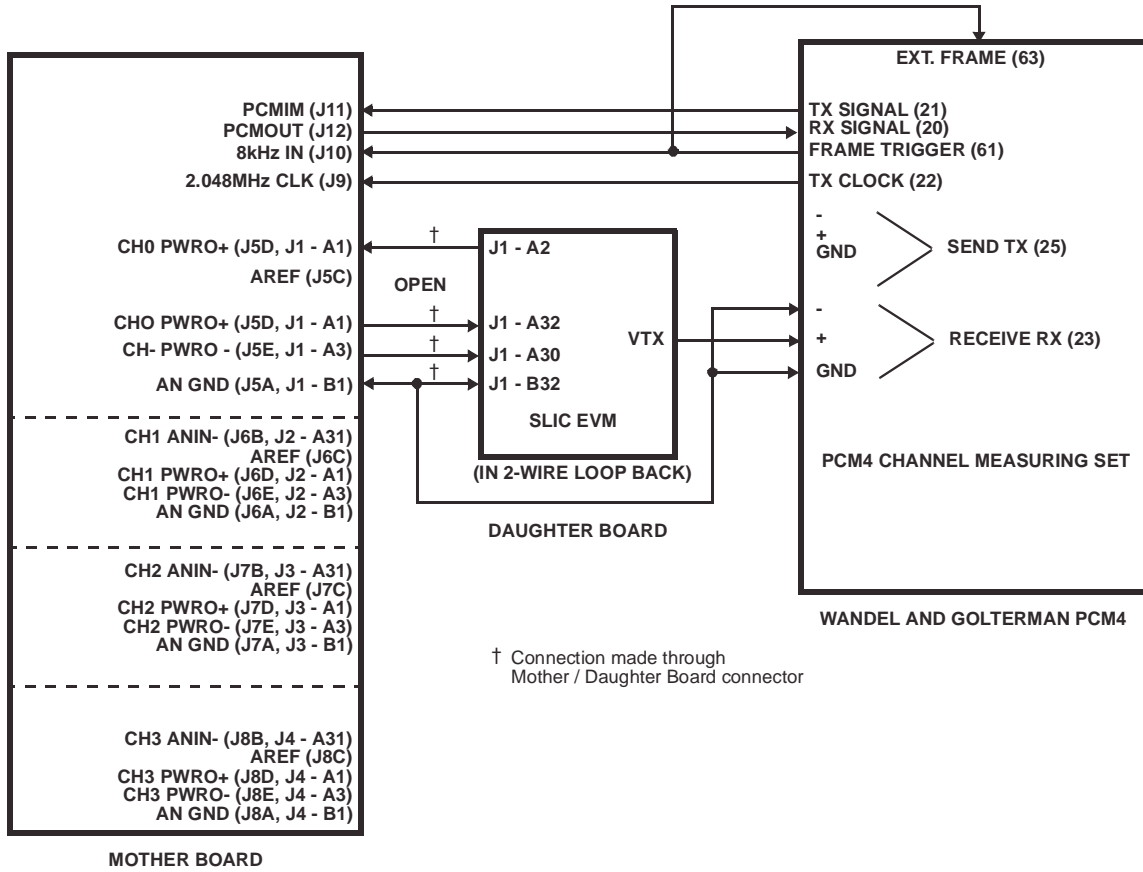

FIGURE 1. TCM38C17 CONNECTIONS TO PCM4 WITH UniSLIC14 EVM CONNECTED
- Connect TCM38C17, UniSLIC14 and PCM4 as shown in Figure 1.